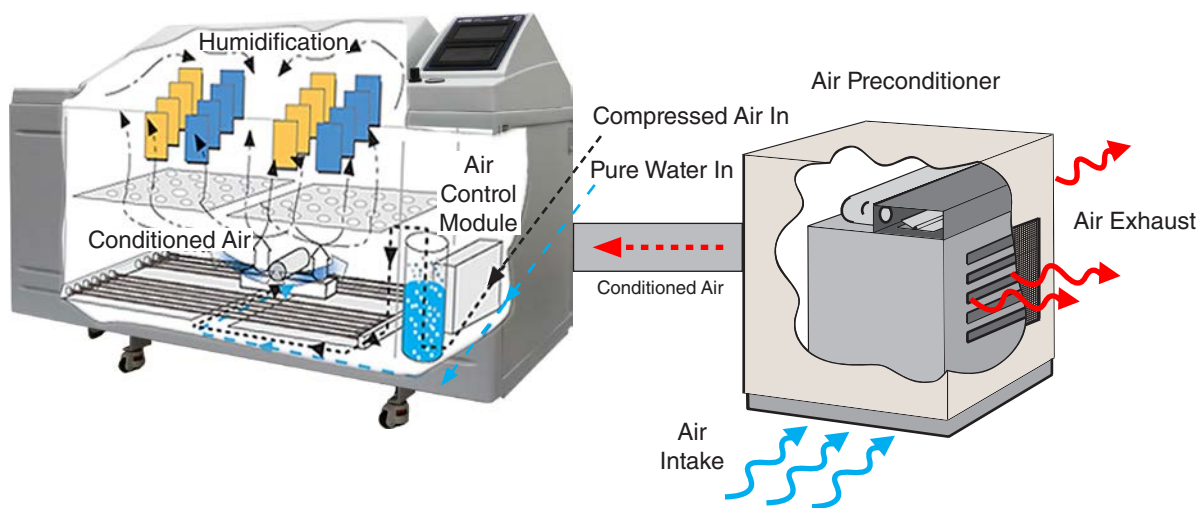

Figure 7.2a: Controlled relative humidity system.
- The RH generation system (Figure 7.2a) injects atomized pure water into the air stream to control the RH level.